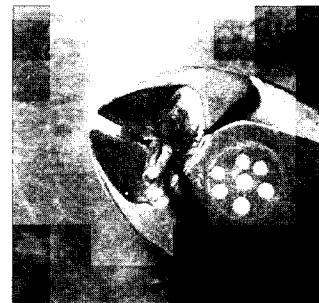

Figure 26
12. Cut off excess element wire close to connectors (see Figure 26).